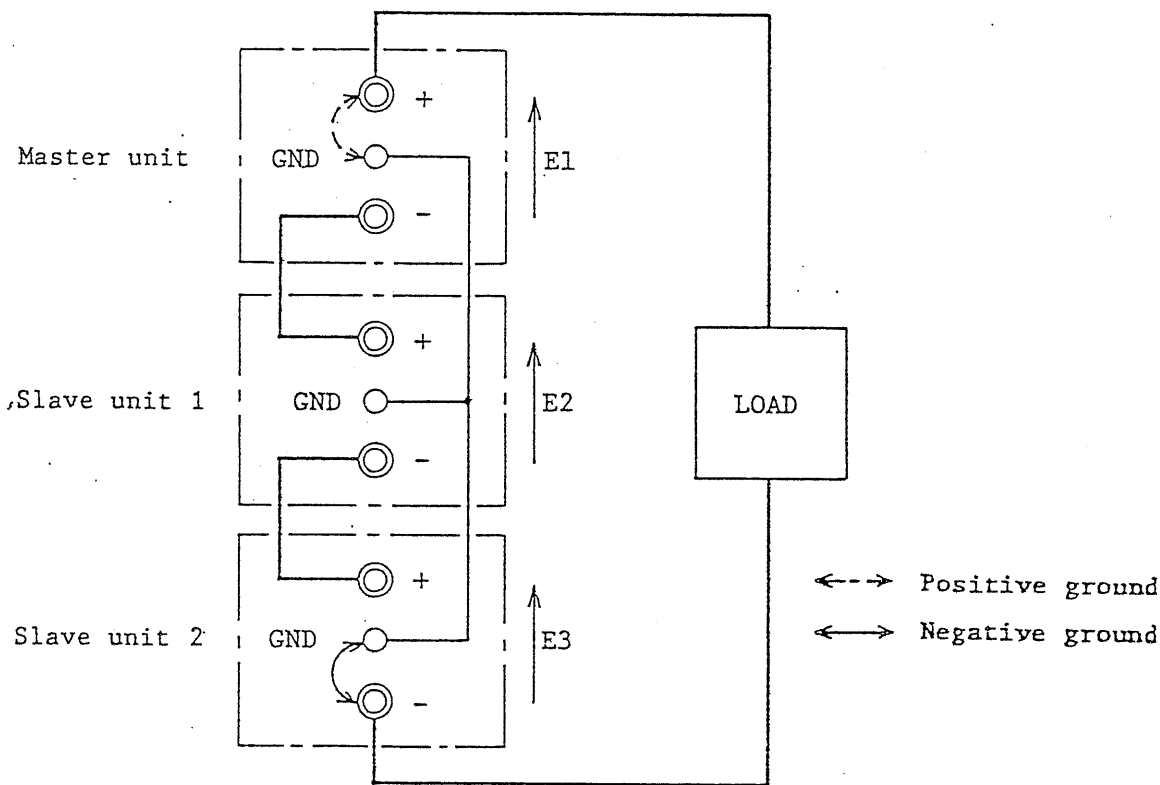

Figure 4-13. Output terminal connections
5. Connect the GND terminals of all units as shown in Figure 4-13.